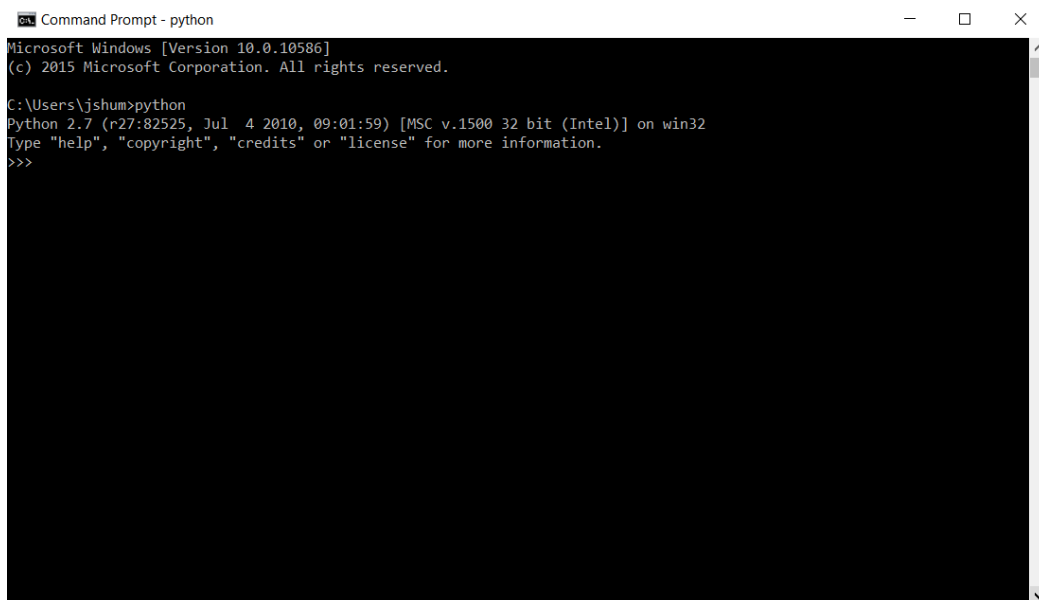

Figure 4: Command Prompt Dialog Box
- Enter “python” into the open Command Prompt. This should allow you to access the Python programming environment. The Command Prompt is shown in Figure 4.